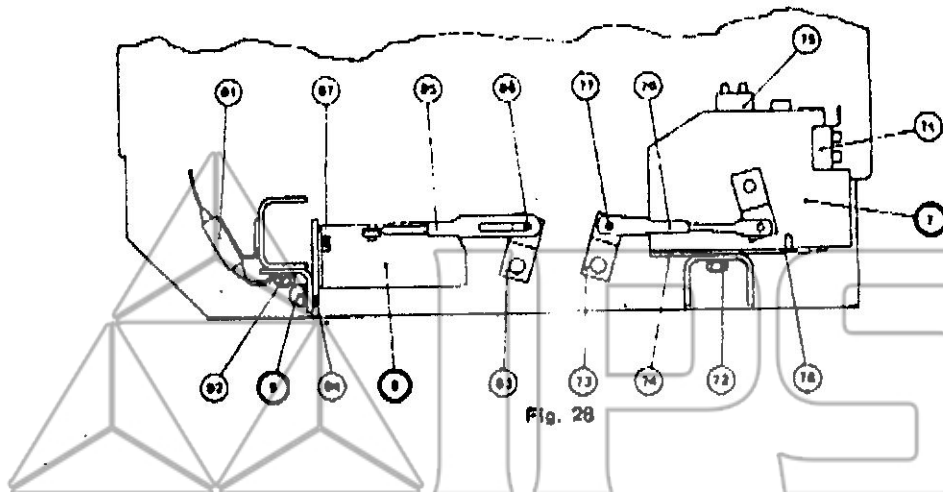

Fig. 28
- E. Undervoltage and Shunt Trip Release (Fig. 28). To remove trip device (8), place breaker in open position and remove coil wires from terminal block (81) located on rear of breaker. By removing pin (86) and mounting nuts (82), the device may be removed. When replacing trip device, lubricate and adjust as described in Chapter IV under Voltage Tripping Devices.